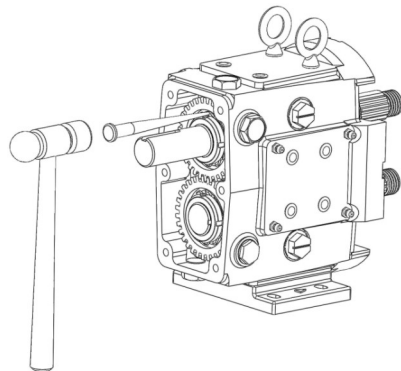
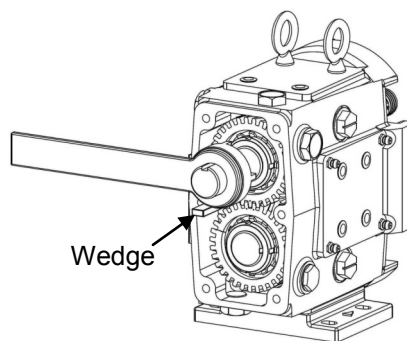

Figure 37: Bending Tabs on Lock Washers
Figure 38: Removing Lock Washers
2) Using a hammer and a punch, bend the tabs straight on the lock washers (Figure 37). Use a wedge (wood or plastic) to keep the shafts from turning while removing the lock nuts (Figure 38). Using a spanner wrench or the nut removal tool (available from Ampco), remove the gear lock nuts. Slowly remove the gears from the shafts. Remove the gear keys and gear spacers from the shafts.